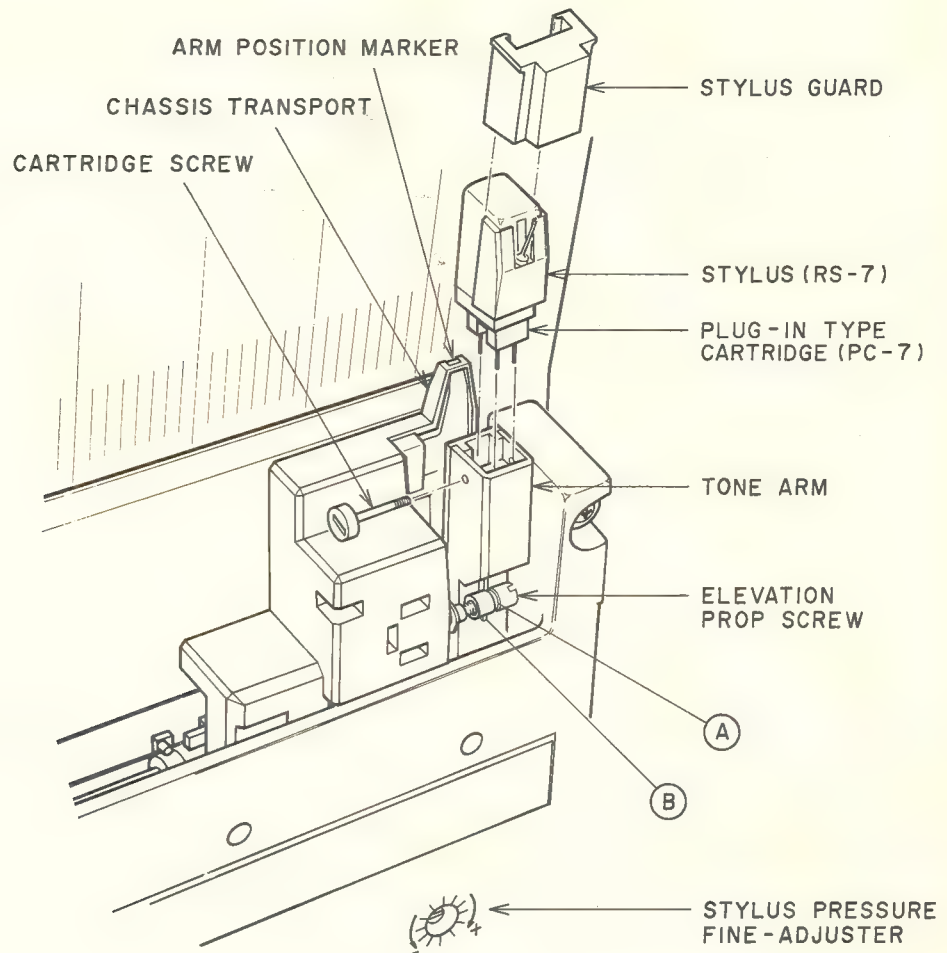

Fig. 6-1 Outside View of Moving Base Block
6-1. ORDINARY MECHANICAL ADJUSTMENTS (Refer to Fig. 6-1)
Pressure Fine-Adjuster located below the Tone Arm section shown in Fig. 6-1.
6-3. ARM ELEVATION POSITION ADJUSTMENT (Refer to Fig. 6-1)
- 1) This adjustment is not necessary unless the Arm Elevation (A) on Elevation Position Screw is replaced or mis-adjusted.
- 2) Hold the Tone Arm with the Chassis Transport and separate the Elevation Prop Screw from the Tone Arm. Then bring the Elevation Prop Screw close to the Tone Arm, and adjust the Elevation Prop Screw with a flat type screwdriver to the place where the position of the notch ① on the Elevation Prop Screw coincides with the projecting part ② on the Tone Arm as shown in Fig. 6-1.